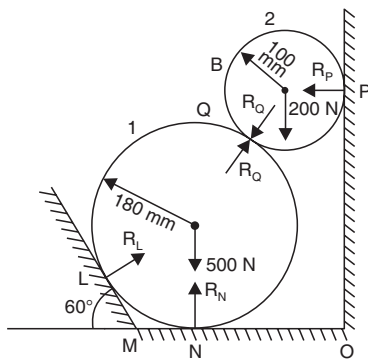

Fig. 2.45
**Example 2.28.** Two cylinders '1' and '2' rest in a horizontal channel as shown in Fig. 2.45. The cylinder '1' has a weight of 500 N and radius of 180 mm. The cylinder '2' has a weight of 200 N and a radius of 100 mm. The channel is 360 mm wide at the bottom with one side vertical. The other side is inclined at an angle 60° with the horizontal. Find the reactions.
**Sol.** Refer to Figs. 2.45 and 2.46.